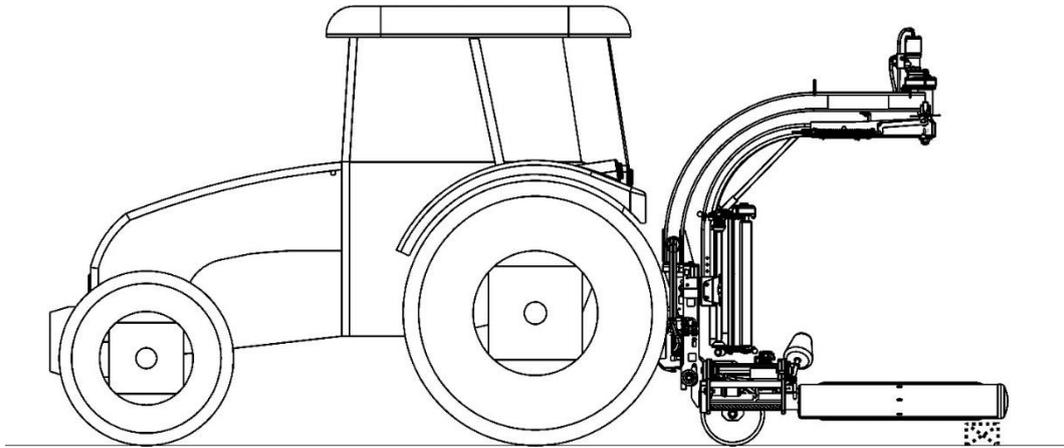

Figure 10. Wrapper position at connection and disconnection with the tractor drive
- When coupling to the tractor the wrapper should be positioned on a hardened level and horizontal surface (Fig. 10). Stop the tractor's engine, take the key from the ignition, and engage the tractor's parking brake.
- Position the wrapper on its storage place on even and level ground (Fig. 10). The included drum supports can be used to ensure the wrapper is horizontal.